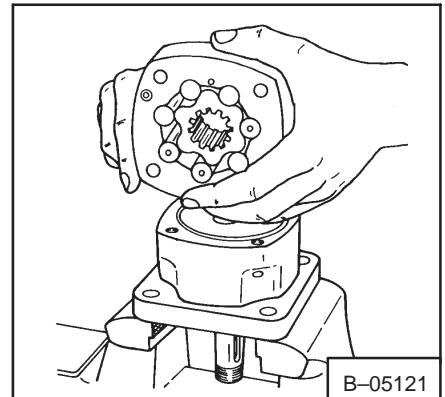

Fig. 3-46 Removing The Geroler
15. Remove the geroler (Fig. 3-46). Make sure the rollers are kept in the geroler.